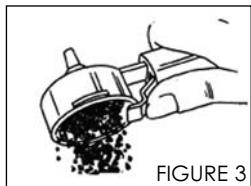

FIGURE 3
15. Flip the Filter Basket Clip forward so that the Filter Basket is retained inside the Filter Holder. While continuing to press against the Filter Basket Clip with your thumb, turn the Filter Holder upside-down and tap out the grounds (see FIGURE 3). Rinse the Filter Basket and Filter Holder before the next use.
11. Flip the Filter Basket Clip forward so that the Filter Basket is retained inside the Filter Holder. While continuing to press against the Filter Basket Clip with your thumb, turn the Filter Holder upside-down and tap out the grounds (see FIGURE 3). Rinse the Filter Basket and Filter Holder before the next use.